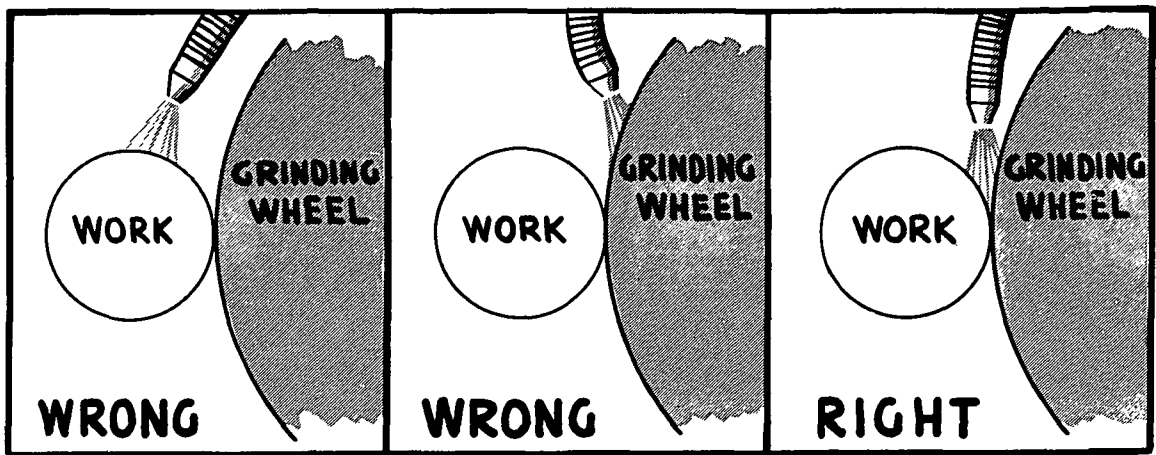

Figure 8—Coolant Application
**Use of Coolant:** Good grinding is almost impossible without a good coolant and the proper use of it. Be sure to have the proper coolant and keep it clean by filtering or changing as it becomes dirty. Use plenty of coolant when grinding and while dressing the grinding wheel. One of the most common causes of poor grinding is due to the improper use or the wrong type of coolant. The coolant **MUST** flow **BETWEEN** the work and the grinding wheel, not on top of the work or on the face of the wheel. (Fig. 8.)